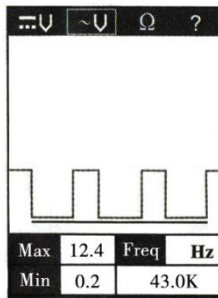

Figure 10
- ◆ Release vacuum and observe the LCD readings. ( Figure 10)